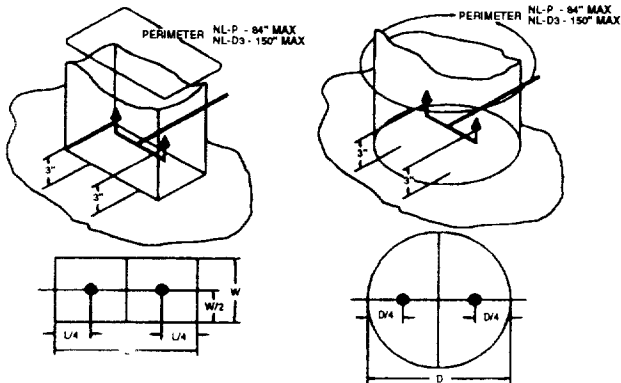

Figure 3-2.1. Dual Nozzle Placement In Duct.
Two (2) Model NL-P exhaust duct nozzles can protect a square or rectangular duct with a maximum perimeter of 84 inches and a maximum one-side length of 34 inches. They can also protect a round duct with a maximum circumference of 84 inches and a maximum diameter of 26.5 inches. When two (2) Model NL-P nozzles are used to protect a single duct, the cross sectional area of the duct must be divided into two equal symmetrical areas. The nozzle must then be installed on the centerline of the area it protects and aimed directly into the duct opening (see Figure 3-2.1).
Two (2) Model NL-D3 exhaust duct nozzles can protect a square or rectangular duct with a maximum perimeter of 150 inches and a maximum one-side length of 66 inches. They can also protect a round duct with a maximum circumference of 150 inches and a maximum diameter of 47.5 inches. When two (2) Model NL-D3 nozzles are used to protect a single duct, the cross sectional area of the duct must be divided into two equal symmetrical areas. The nozzle must then be installed on the centerline of the area it protects and aimed directly into the duct opening (see Figure 3-2.1).